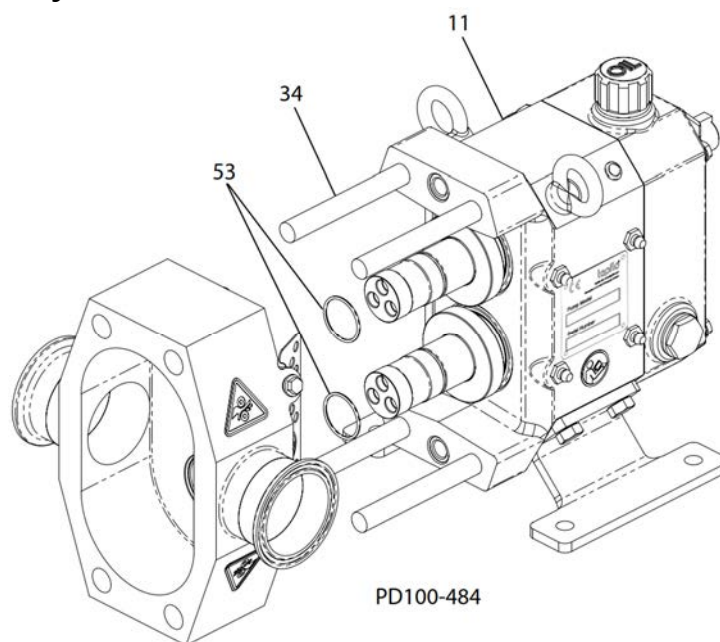

Fig. 33: Pump body removal
1. Using a mallet, tap the body forward until the dowels are free of the gear case (Figure 33, item 11).
2. Carefully slide the body off of the studs (item 34) to prevent damaging the mechanical seal components.
4. Remove and inspect the rotor hub O-rings (item 53).